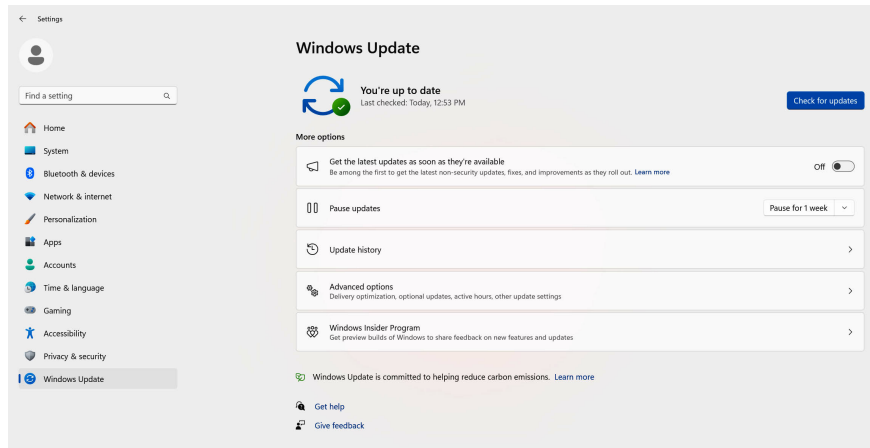

Figure 44: Windows 11 System Update Dialog
1. Navigate to *Settings* -> *Windows Update* -> *Advanced Options* (Fig 44)